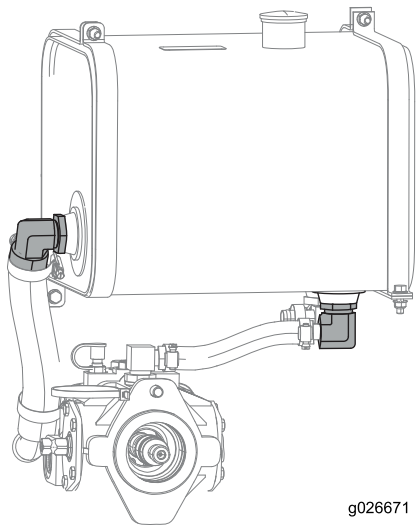

Figure 42
10. Remove the elbow adapters and remove and clean the filter screens with compressed air (Figure 42).